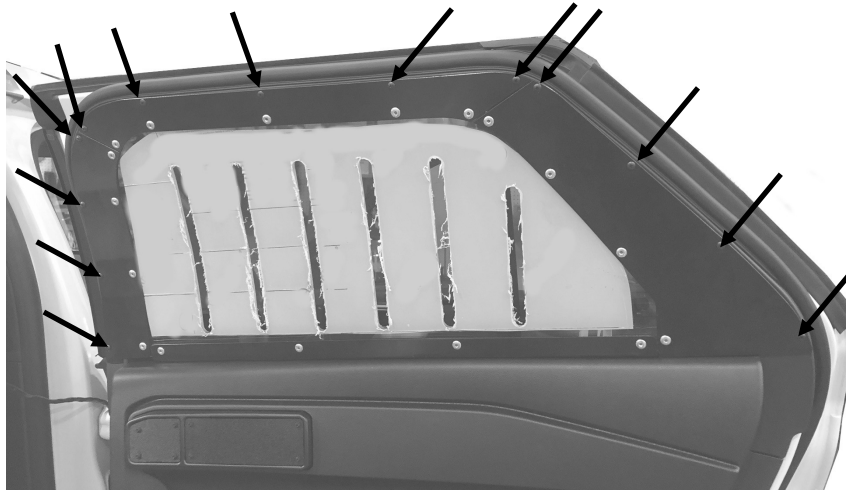

Fig. 1– PASSENGER SIDE SHOWN
- A. From the inside of the door, insert the window armor assembly flanges in the window glass track until bottom rests on top of the OEM Door Panel. (See Fig. 1).